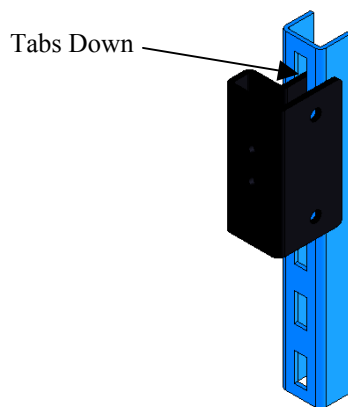

Figure 2
1. Insert one adapter bracket, tabs facing down, into office furniture equipment mounting slots at desired height (see Figure 2).